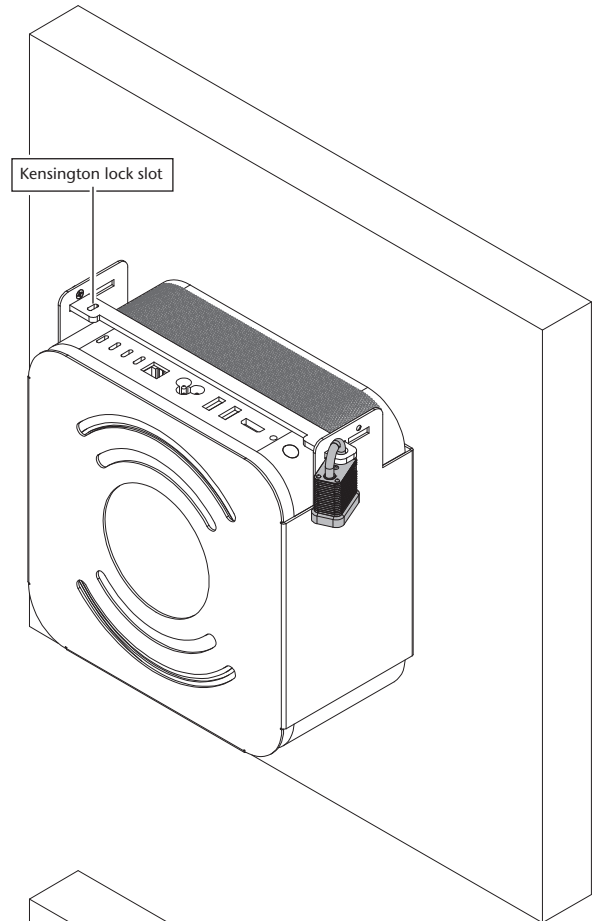

Figure 17
17. For additional security, install a padlock through the round hole on locking bar (Figure 17). Alternately, you may secure the locking bar with a Kensington lock installed in the Kensington slot on the front of the bar, or with both a padlock and Kensington lock.